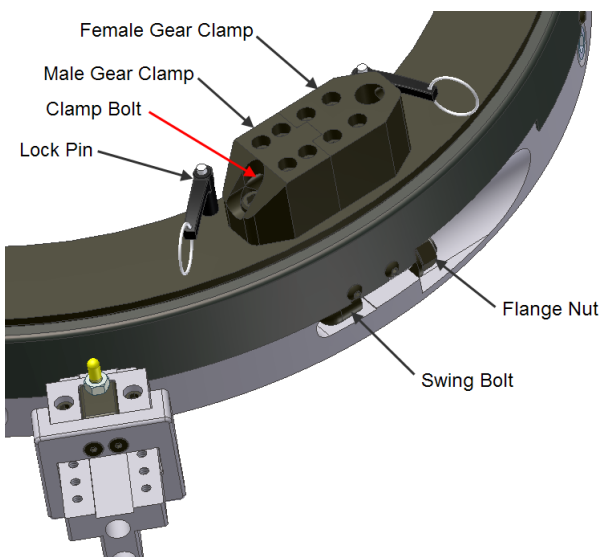

Figure 3
3. Loosen the two swing bolt flange nuts in the housing and swing the bolts out of the pockets. Unscrew the two clamp bolts on the gear halves and separate the clamshell halves by pulling straight apart (see Fig. 3).